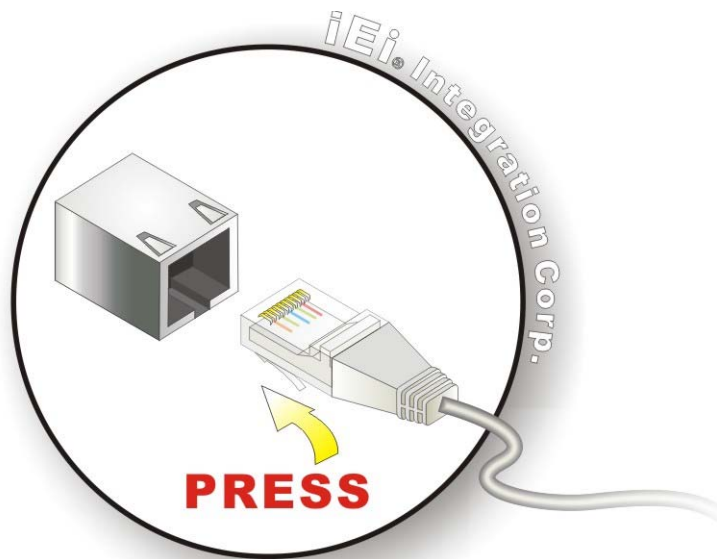

Figure 4-14: LAN Connection
Step 2: **Align the connectors.** Align the RJ-45 connector on the LAN cable with one of the RJ-45 connectors on the PIC0e-B650. See **Figure 4-14**.